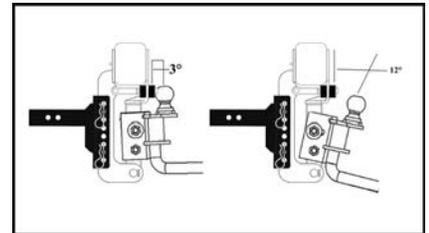

Figure 9: Using spacer washers, find the correct angle needed for your setup.
•Attach the Shocker Air Equalizer to the XR channel hitch (the XR channel hitch may be used in the up or down position). With ball attached to ball mount, attach the ball mount on the Air Equalizer. Insert bolt in bottom hole first, rest hitch head (see Figure 9). NOTE: Ensure air bag is deflated, you can do so by taking a pin and pushing the air valve bleeder while pushing on the air bag.
•Rivet ⑩ and 7 spacer washers ⑨ are supplied in order to gain correct downward angle of spring bars. For an initial fitment, try 4 spacer washers for top mounted couplers and 3 spacer washers for bottom mounted couplers. Insert rivet ⑩ and depending on angle or slope of bars that must be gained, use the least amount of washers ⑨ necessary in order to establish correct angle.
•The rivet ⑩ and its accompanying washers ⑨ are placed in the 1/2" hole between the "U" on ball mount ① to acquire desired angle of spring bar ⑤. Once spring bar ⑤ angle has been determined, insert top bolt ⑥ with serrated washer ⑦. Install second serrated washer ⑦ and nut ⑧ to secure unit in correct position. Before tightening bolts, lock (tighten) ball mount set screw located at the bottom rear center of ball mount channel. Tighten the 3/4" top bolt ⑥ to 260 ft. lbs. torque once head angle is set. Secure lower bolt ⑥ to 260 ft. lbs. torque. After first day of towing, check ball mount set screw for tightness.